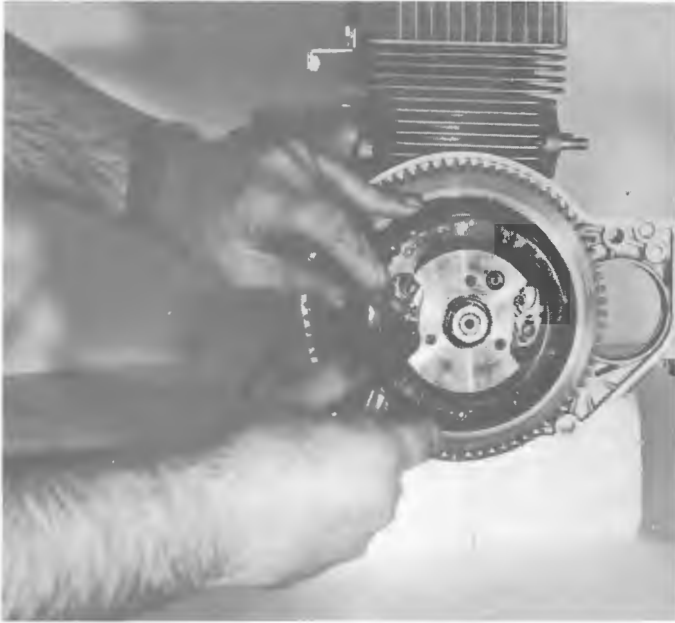

FIGURE 5-12 SETTING CONTACT BREAKER POINT GAP
5.4.3 Contact Breaker Points (See Figure 5-12)
- c. Refer to Figure 5-12.
- e. Refer to Figure 5-12.